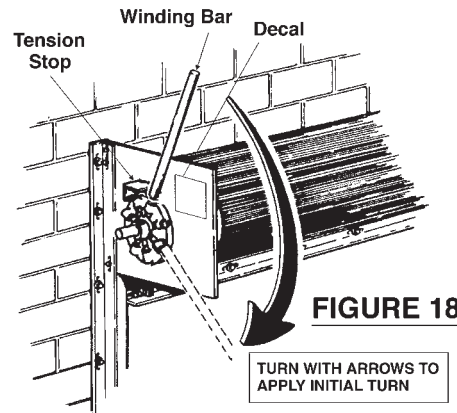

FIGURE 18
- Wind tension wheel in the direction shown in Figure 18. Apply the initial turns shown on the tension headplate decal and on the "Installation Data" sheet.